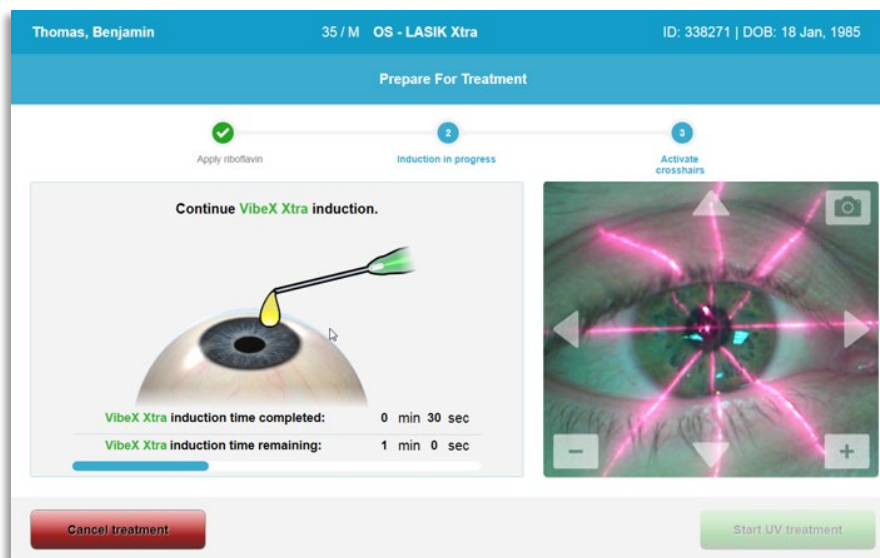

Figure 3-22. Align Crosshairs During Induction
- Red alignment lasers will turn on 30 seconds before the end of the Induction period as shown in Figure 3-22.